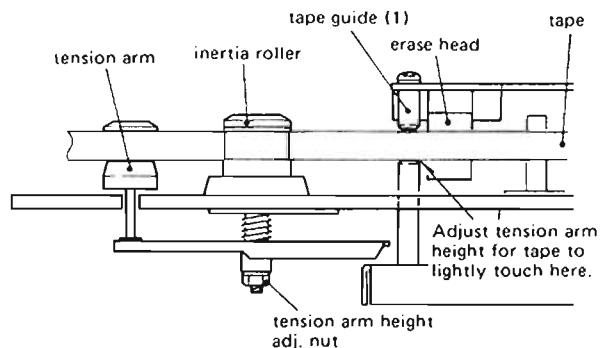

Fig. 2-21 Tension arm height adjustment
1. Running a TEAC YTT-8013 test tape (thickness = $35\mu\text{m}$) in the forward direction, adjust the height of the left tension arm so that the lower edge of the tape is just touching the lower edge of the tape guide (1). See Fig. 2-21. Also refer to 2-10 TENSION ARM HEIGHT ADJUSTMENT".
2. Adjust the height of the tape guide (2) so that the upper edge of the tape is in contact with the upper edge of the tape guide.
4. Apply locking paint to the height adjusting nut of the tape guide (2).
5. During reverse play, adjust height of tape guides (3) and (4) in the same way as steps 1 ~ 4. For tape guide (4), adjust right tension arm height.